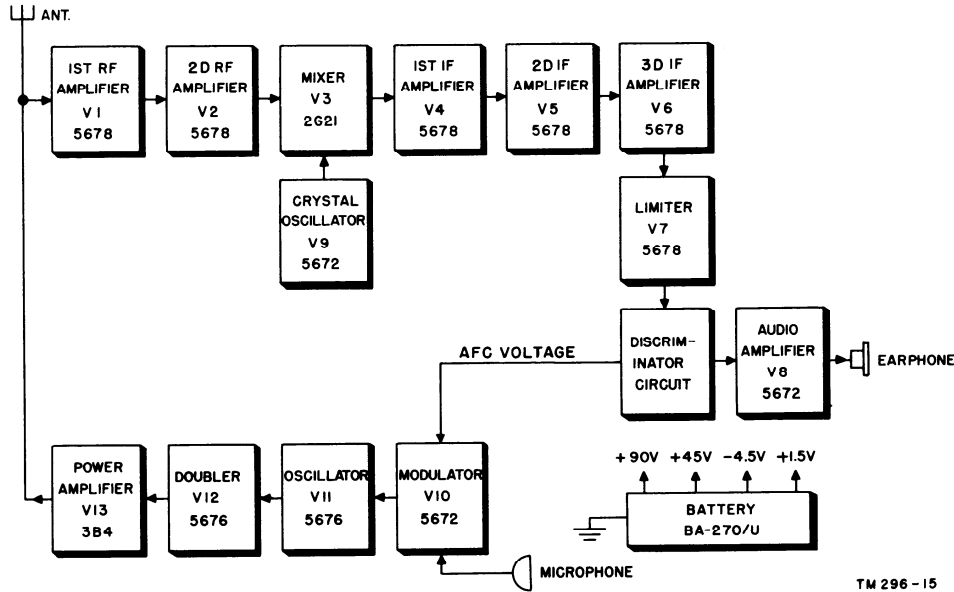

Figure 15. Radio Set AN/PRC-6, detailed block diagram.
a. Figure 15 is a detailed block diagram of Radio Set AN/PRC-6. In the block diagram, the signal direction is shown by arrows; all tubes are used during transmission. The same antenna is used for both transmission and reception.